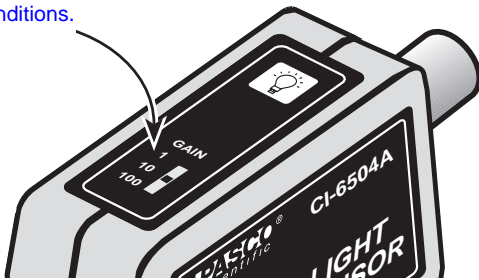

Figure 4. Setting the gain on the Light Sensor
- ④ Select **Light Sensor** from the drop-down menu.
- ⑤ Open a display window, such as the Digits display, by dragging and dropping the appropriate display icon on the Light Sensor icon.
- ⑥ Select the appropriate gain setting on the sensor box for the light levels to be measured (Figure 4). The correct gain setting is the one for which the intensity levels on the display vary appropriately for measuring the relative light intensity changes in your experiment.